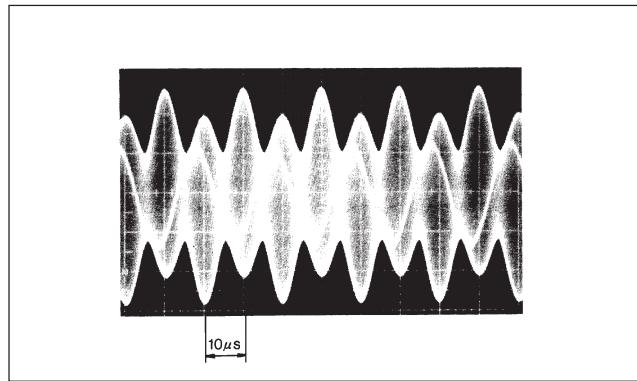
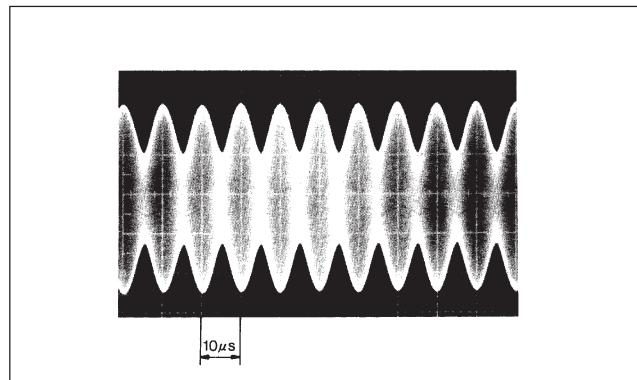

Fig. 6
Fig. 7
- ① Prepare the oscilloscope by setting the input coupled switching to AC with a horizontal sweep axis of 10 μ s/div and a vertical axis of 0.5 V/div, and connecting CH1 to the PM terminal. At this time, the trigger source should be taken from INT CH1.
- ② A sine wave appears in CH1. The phase of this sine wave moves in accordance with the scale movement, allowing the envelope ripple to be observed. First rotate the RV2 volume to set the sine wave amplitude to approximately 2 Vp-p. (This is called the gain adjustment.)
- ③ When the RV1 volume is rotated completely to the right (clockwise) and the scale is moved, the waveform shown in Fig. 6 appears. At this point, adjust the RV4 volume so that neighboring peaks are of the same height as shown in Fig. 7 (This is called the DC balance adjustment.) If the minimum PM signal amplitude falls to 0.5 Vp-p or less, the alarm function may operate.
- ④ When the RV1 volume is rotated completely to the left (counter-clockwise) and the scale is moved, the waveform shown in Fig. 6 appears as in step ③ above. At this point, adjust the RV5 volume so that neighboring peaks are of the same height as shown in Fig. 7.